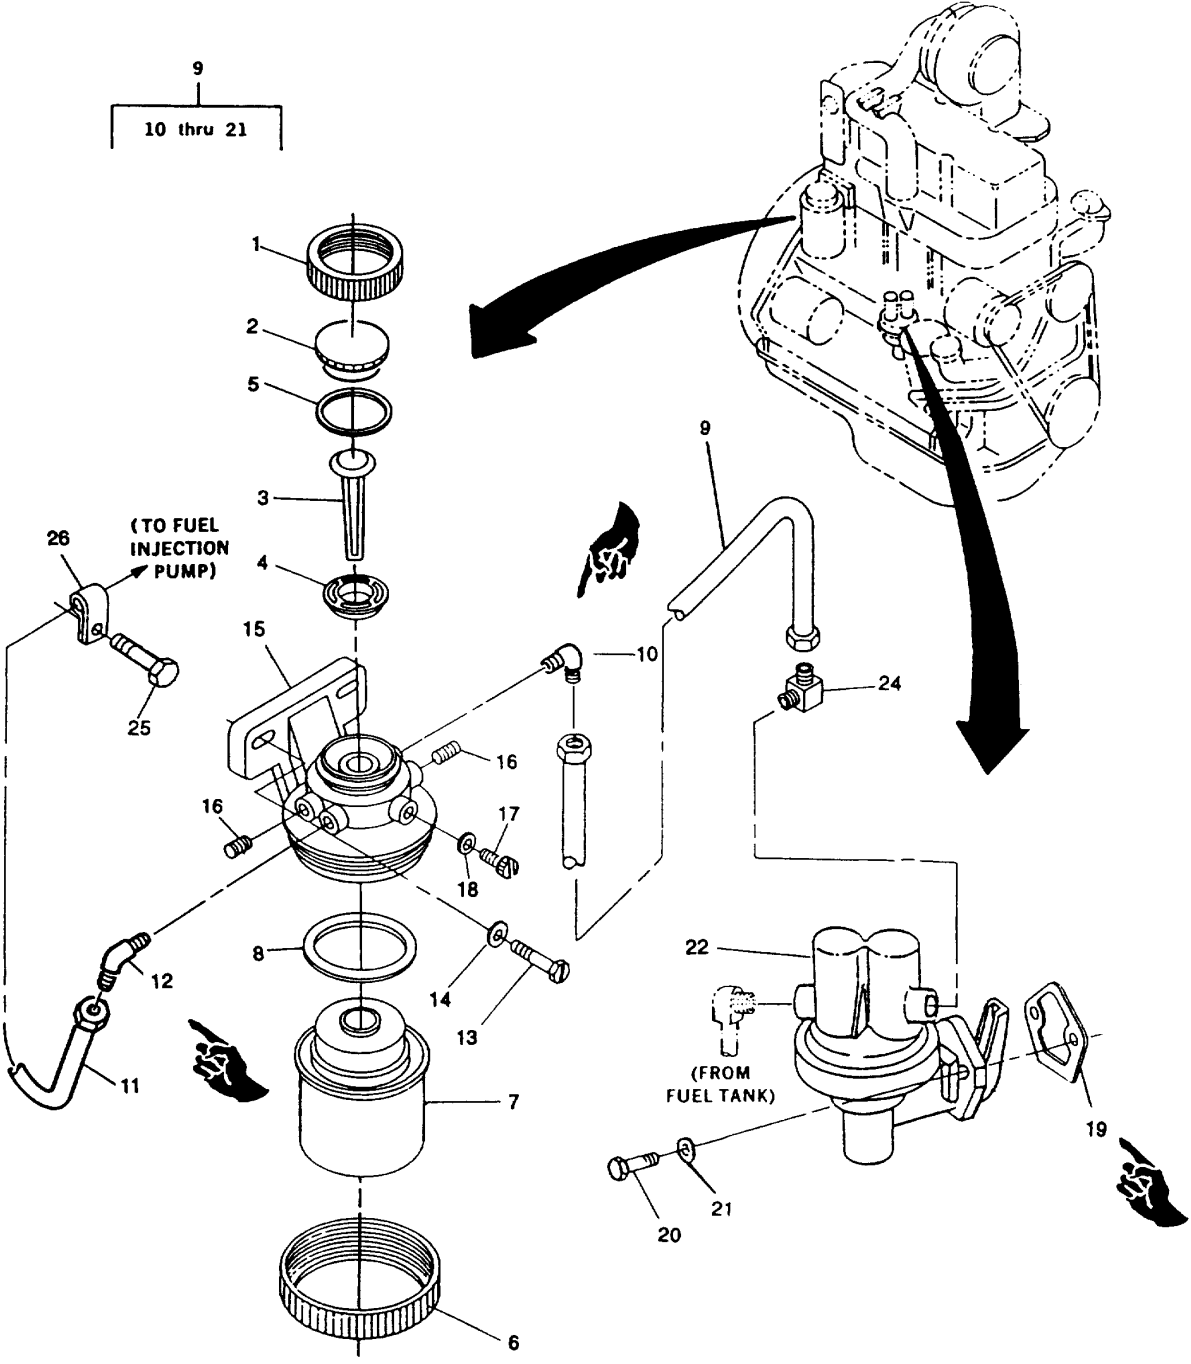
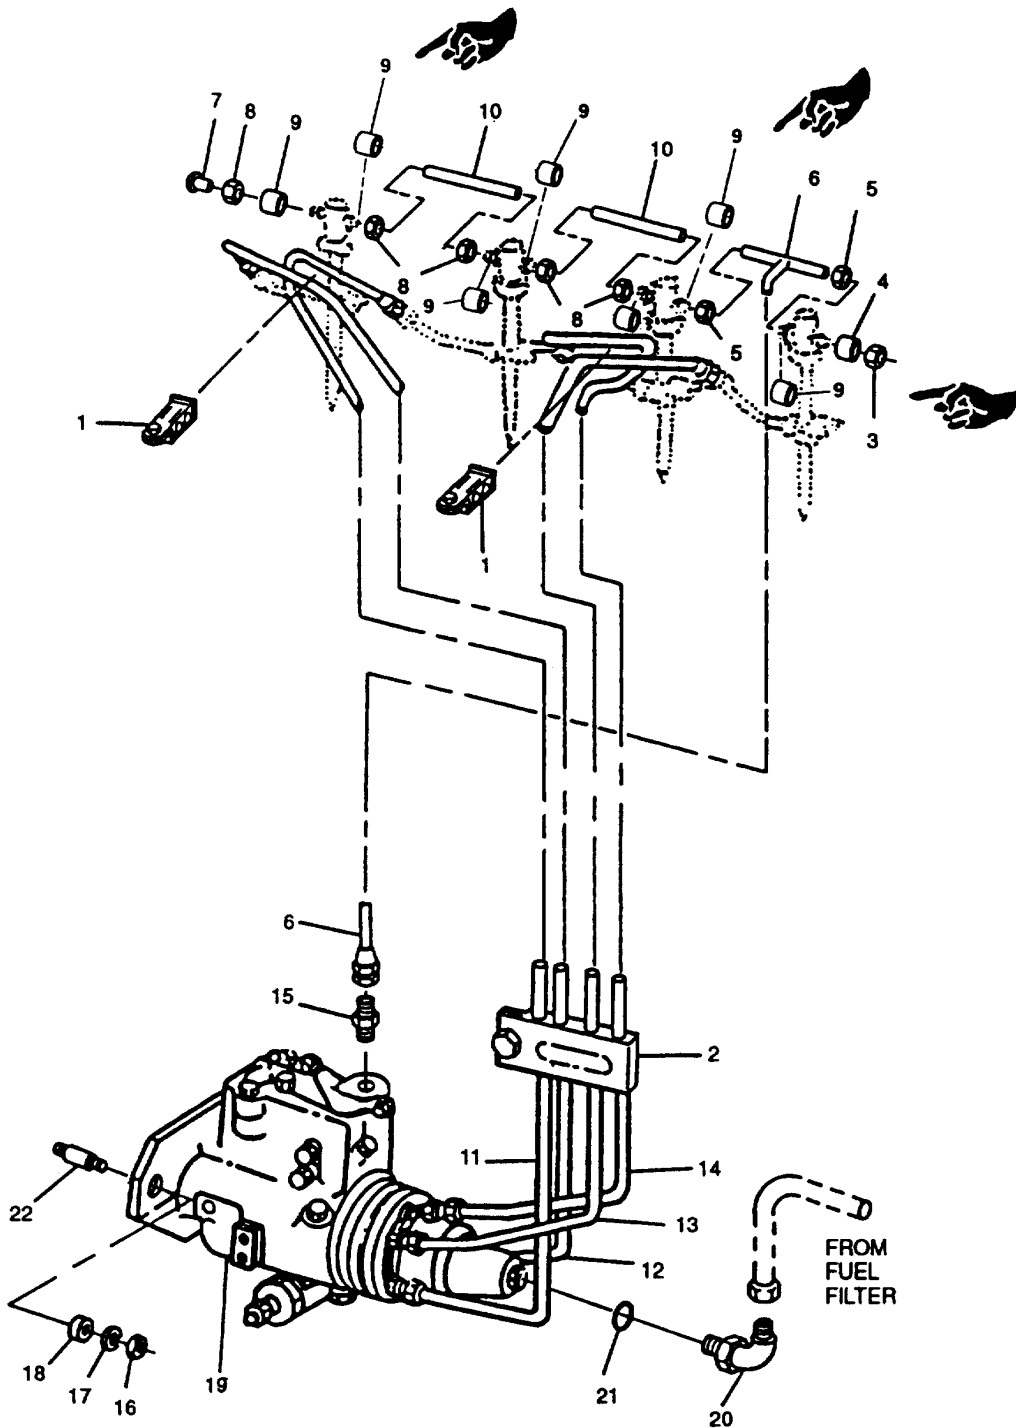

FIGURE 3-40. Fuel Filter and Fuel Supply Pump
FIGURE 3-41. Fuel Lines and Injection Pump Installation
- a. Loosen air bleed screw (17, FIGURE 3-40) on front of fuel filter.
- b. Operate primer lever of fuel supply pump (22) until fuel flow is free from air bubbles. Tighten bleed screw securely, continue operating hand primer until pumping action is not felt. Push hand primer inward (toward block) as far as it will go.
- a. Remove cap retaining ring (1, FIGURE 3-40), header (2), volume plug (3), and prefilter (4). Inspect seal (5) for damage and replace as necessary. Install new prefilter (4), seal (5), volume plug (3), header (2), and cap retaining ring (1).
- b. Loosen and remove retaining ring (6) and filter element (7) from filter head. Discard packing (8). Install new filter element (7) with new packing (8) and secure with retaining ring (6).
- a. Disconnect fuel line (9, FIGURE 3-40) from elbow (10) at filter head (15). Cap openings.
- b. Disconnect fuel line (11) from elbow (12) in outlet of filter head. Cap openings.
- c. Remove two capscrews (13) and washers (14) securing filter head (15) to engine block; remove filter assembly.
- b. Remove two elbows (10 and 12, FIGURE 3-40) from filter head (15).
- c. Remove bleed screw (17) and preformed packing (18). Discard preformed packing (18).
- d. Install new preformed packing (18) and bleed screw (17).
- a. Position filter head (15, FIGURE 3-40) on engine mounting and secure with two capscrews (13) and washers (14).
- b. Remove caps and connect fuel line (11) to elbow (12) in outlet of filter head.
- c. Remove caps and connect fuel line (9) to elbow (10) in inlet of filter head.
- a. Disconnect fuel line (9, FIGURE 3-40) from elbow in fuel supply pump (22) outlet. Cap openings.
- c. Remove two capscrews (20) and washers (21) securing fuel supply pump (22) to engine block. Remove pump and gasket (19); discard gasket (19).
- e. Remove elbow (24) from fuel supply pump outlet.
**Use adhesive (242) on elbow threads before installing fittings.**
- a. Install elbow (24, FIGURE 3-40) in fuel supply pump outlet.
- b. Position new gasket (19) and fuel supply pump (22) on engine block and secure with two capscrews (20) and washers (21).
- d. Remove caps and connect fuel line (9) to elbow (24) in fuel supply pump outlet.
- a. If necessary, remove fuel line (11, FIGURE 3-40) by disconnecting it at fuel injection pump using two wrenches. Remove capscrew (25) securing clamp (26) and remove fuel line.
- b. If necessary, remove fuel line (9) by disconnecting it at elbows (10 and 24).
- c. Remove two loop clamps (1, FIGURE 3-41).
- d. Remove loop clamp (2).
- e. At cylinder No. 4 fuel injector, loosen coupling nut (3) and disconnect return line to fuel tank. Remove coupling nut (3) and bushing (4). Discard bushing (4).
- f. Between injectors Nos. 3 and 4, loosen coupling nuts (5) and disconnect return tube (6). Remove nuts (5). Disconnect other end of tube (6) from fitting (15).
- g. Loosen coupling nuts (8) securing tubes (10) to injectors. Remove tubes (10), coupling nuts (8), rivet (7), and bushings (9). Discard bushings (9).
- a. Remove all caps and connect four fuel injection lines (11, 12, 13, and 14, FIGURE 3-41) to fuel injectors and fuel injection pump as tagged during removal.
- b. Install new bushings (9) and coupling nuts (8) on tubes (10). Install tubes (10) to fuel injectors and secure with coupling nuts (8). Do not overtighten coupling nuts.
- c. Connect tube (6) to fitting (15). Connect other end of tube between injector Nos. 3 and 4 using new bushing(9) and coupling nuts (5). Do not overtighten coupling nuts.